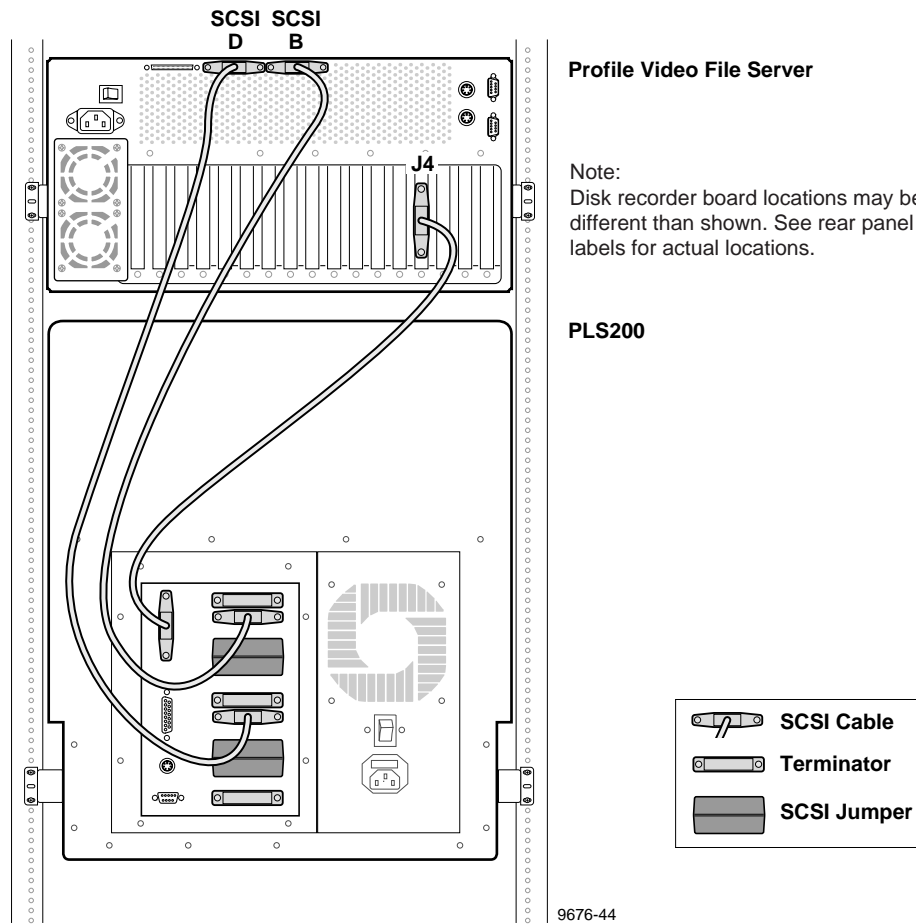

Figure 2-23. Example 3: Profile Video File Server to PLS 200 Connections
Example 3 (Figure 2-23) shows connection of a Profile Library System (PLS200) to a Profile Video File Server equipped with a Slave EDR. This example allows archiving material on the Profile Video File Server to the PLS 200 through the SCSI B and SCSI D buses. The System SCSI board at Profile Video File Server Slot J4 provides control signal for the library robot.
**NOTE:** This example requires attachment of SCSI Terminators on the PLS200 as shown in Figure 2-23.